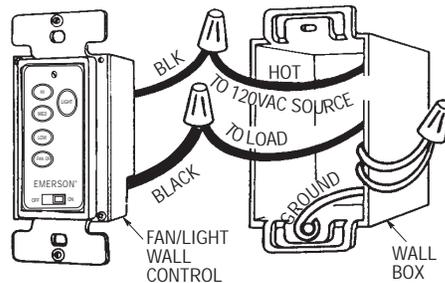

Figure 3
- 4. Connect one black wire of wall control to the "hot" wire in the wall box. Securely connect wires with wire connectors supplied (Figure 3).